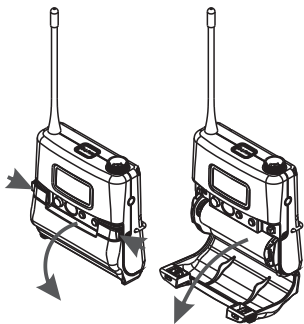

Fig. 23
1. Press the side hooks to open battery compartment. Remove the battery carefully, Fig. 23.